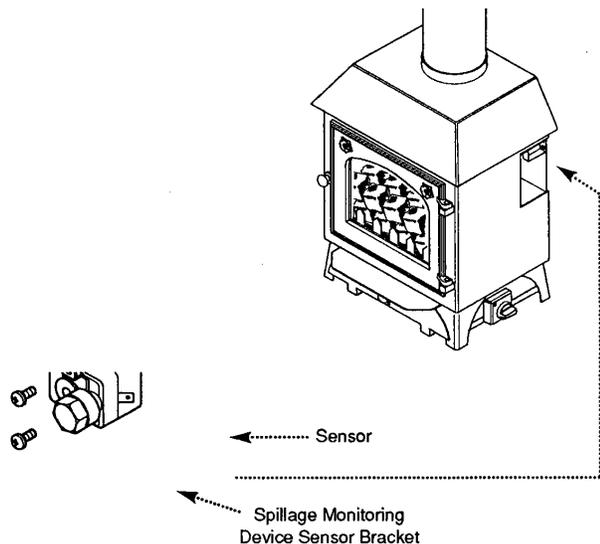

Fig. 43
10.2 Spillage Monitoring Device (Figs. 43 & 44)